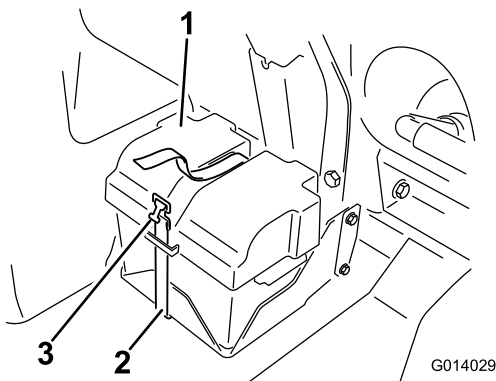

Figure 83
2. Remove the battery cover and disconnect the negative (black) ground cable from the battery post (Figure 83).
4. Install the battery cover and secure it with the strap that you removed previously (Figure 83).